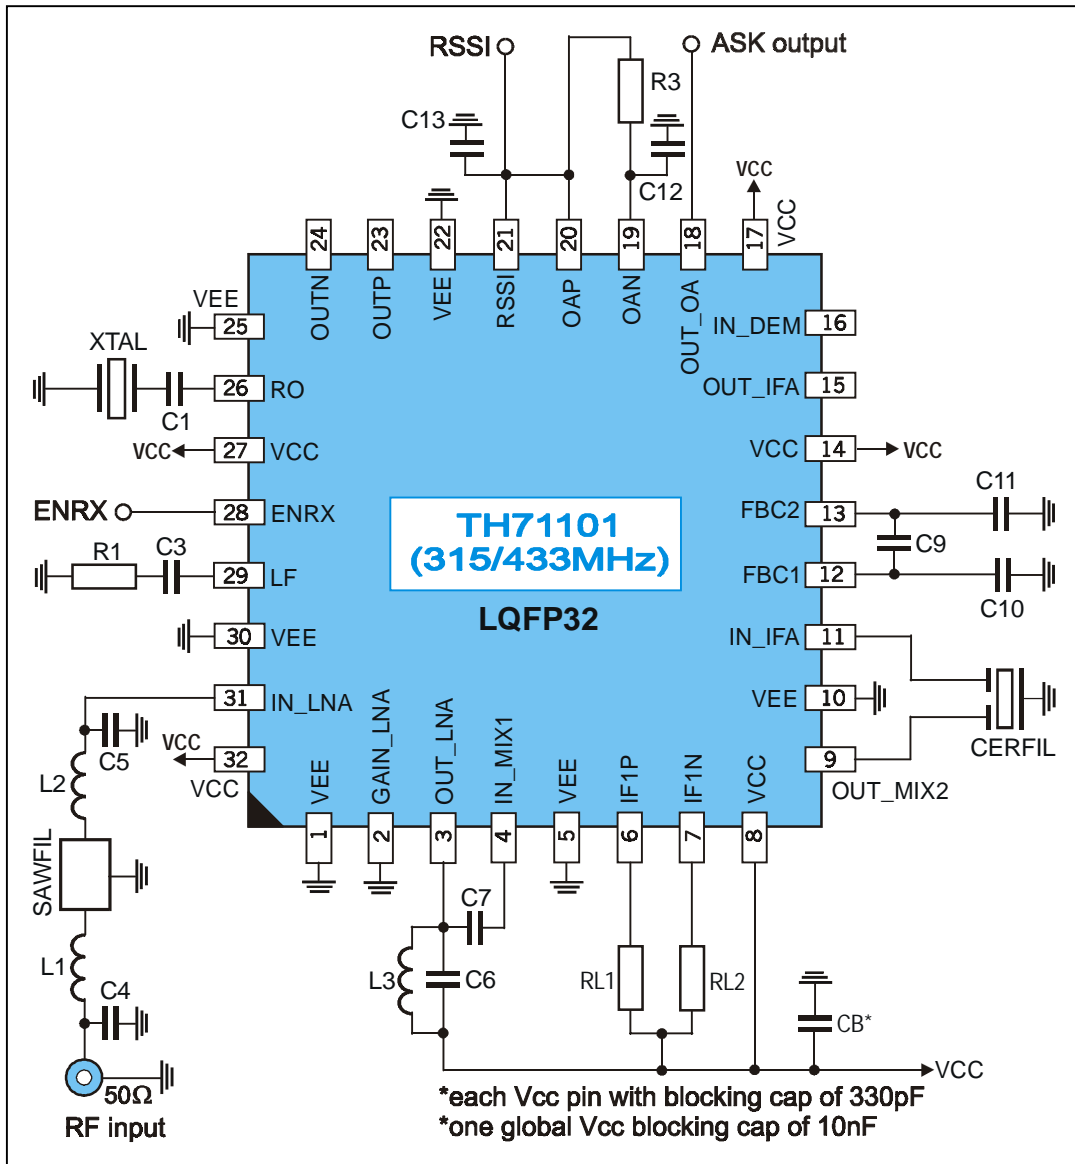

Fig. 5: Test circuit for ASK reception
**ASK test circuit component list to Fig. 5**